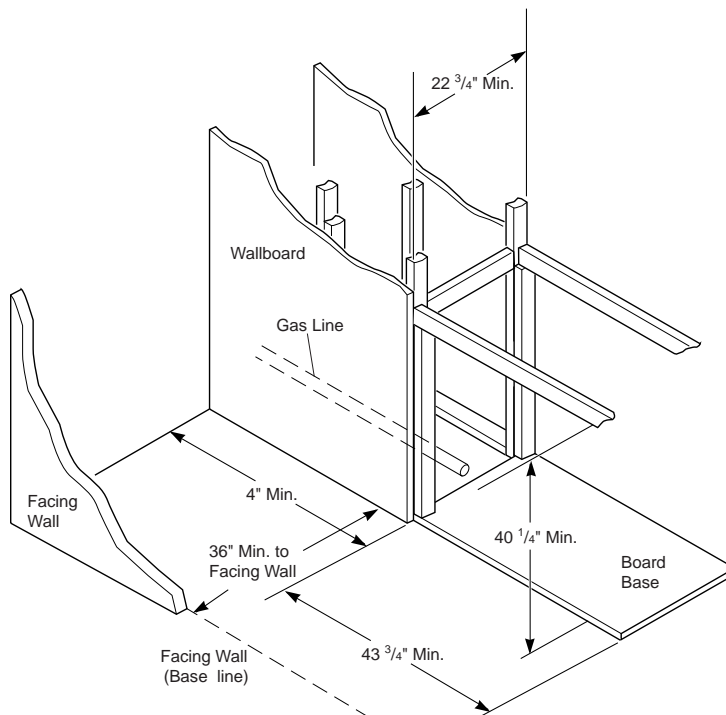
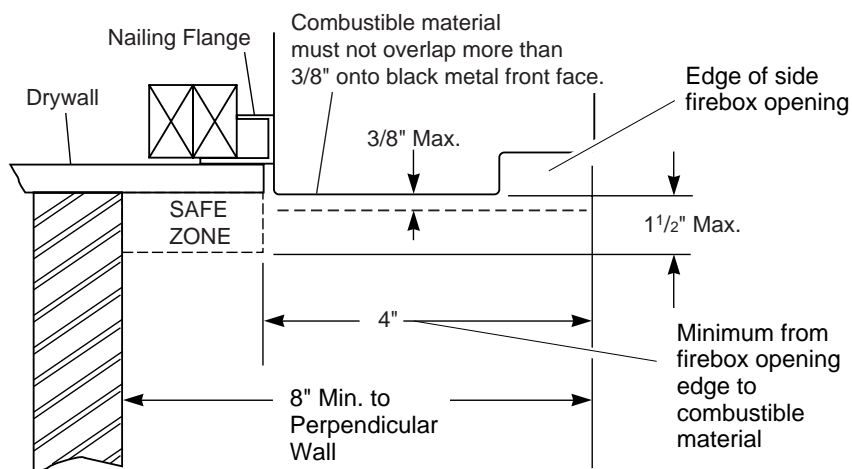

Figure 8 - Framing for Built-In or Internal Wall Firebox Installation
Figure 9 - Framing for Built-In Firebox Installation: Top View
1. Frame in rough opening. The firebox framing should be constructed of 2 x 4 lumber or heavier. Construct framing using dimensions shown in Figure 8 and Figure 9, page 9. It is recommended that the framing be constructed first and the unit be placed in position. After sliding the unit into place, the flanges may be nailed to the framing before applying the wallboard to the exterior framing.
⚠ WARNING: Do not allow any combustible materials to overlap the firebox front facing (see Figure 9).